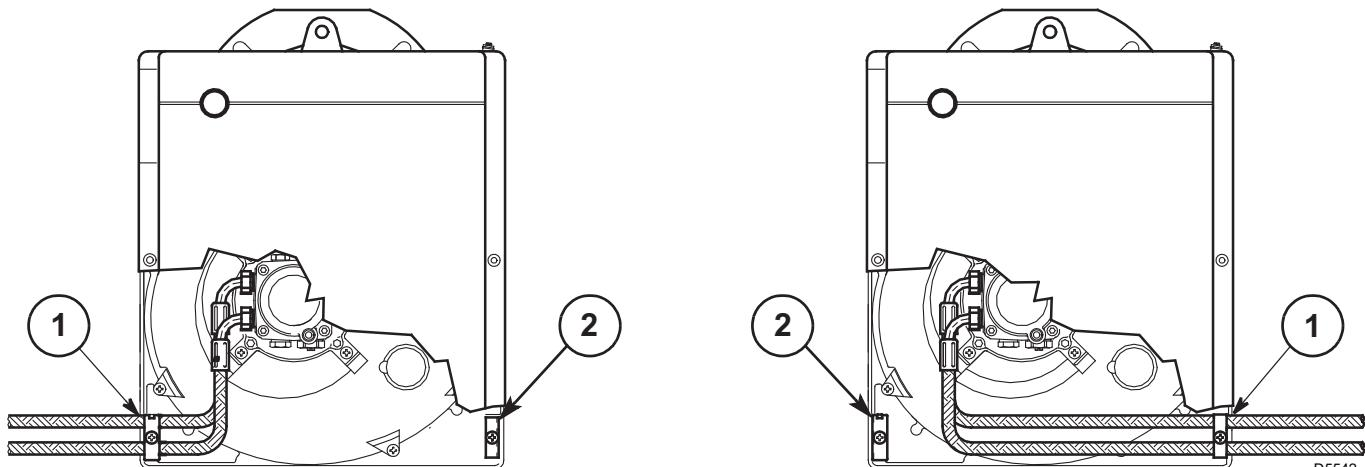

Fig. 7
The burner is designed to allow entry of the oil supply pipes on either side. Depending on the oil supply pipes position (to the right or to the left hand side of the burner) the fixing plate (1) and closing plate (2) should be reversed, (see Fig. 7).